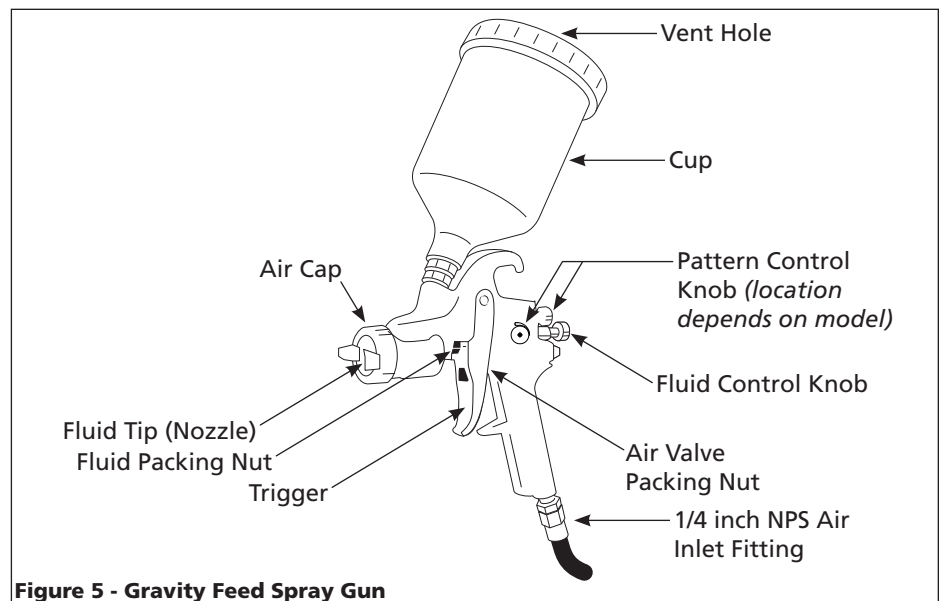

Figure 5 - Gravity Feed Spray Gun
5. Unscrew packing nuts and replace the packing **ONLY** if a leak will not stop when the nut is tightened (See Figure 5). Do not over-tighten a packing nut because this will restrict movement of the needle.